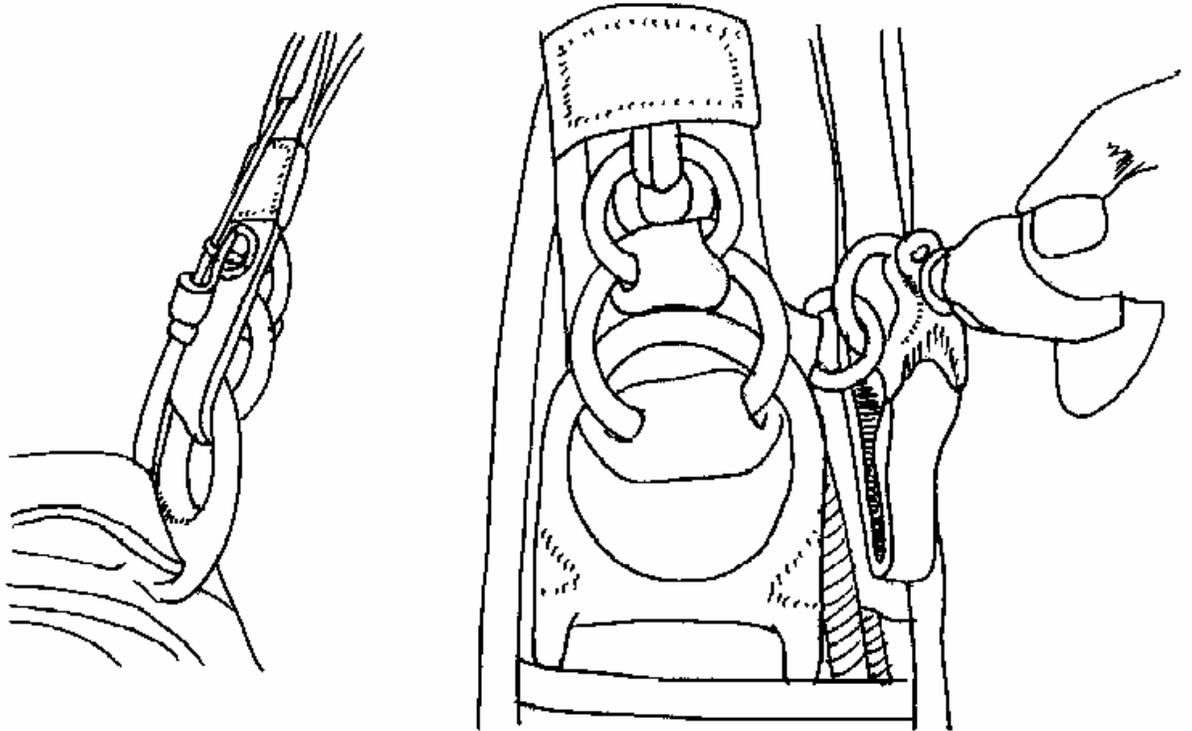

Figure 1 Three Ring Release
5. **Main Parachute:** Located in the lower container and attached by the risers to the harness at the shoulders by a three ring release system (*figure 1 on page 7*). This parachute is rectangular in shape and is referred to as a ram air parachute